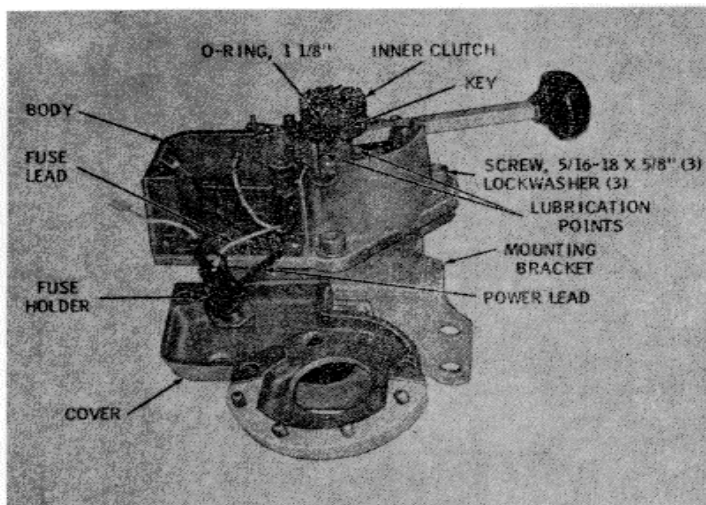
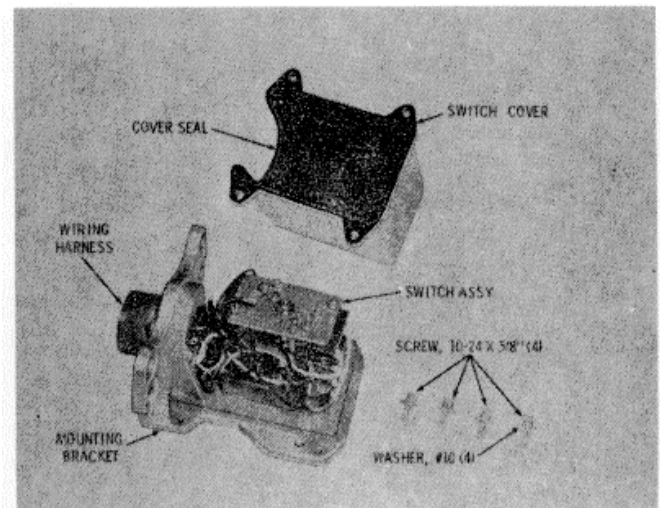
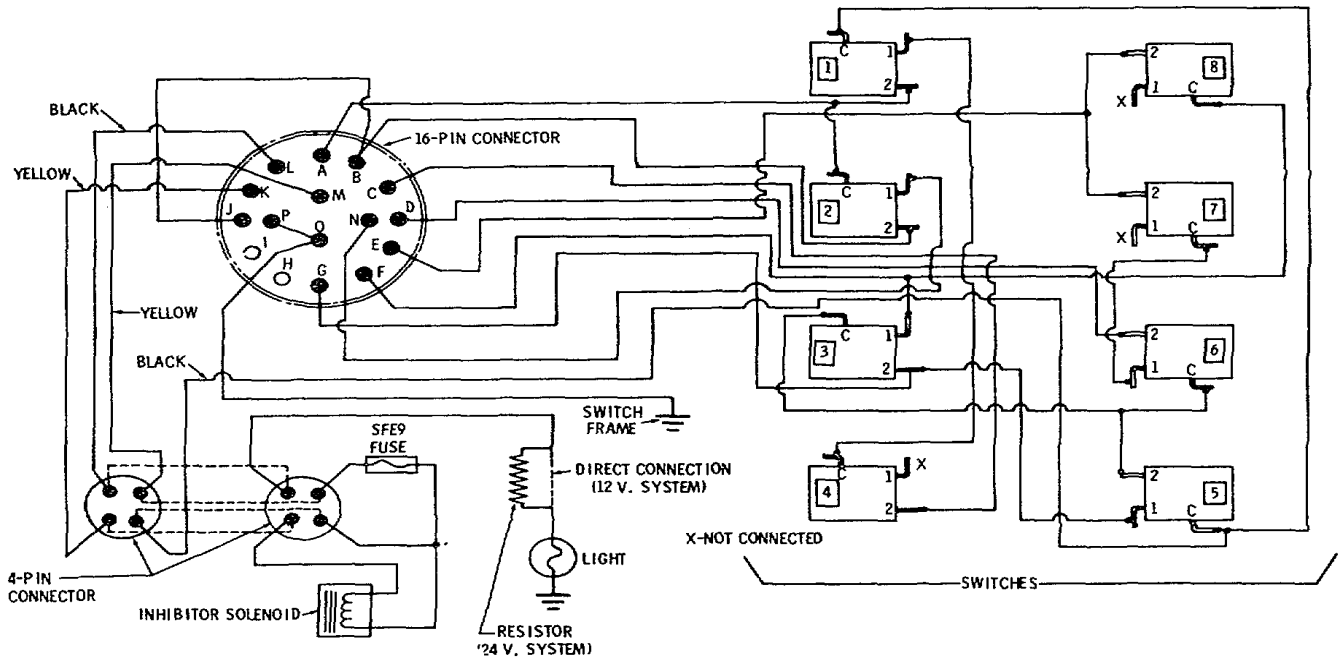
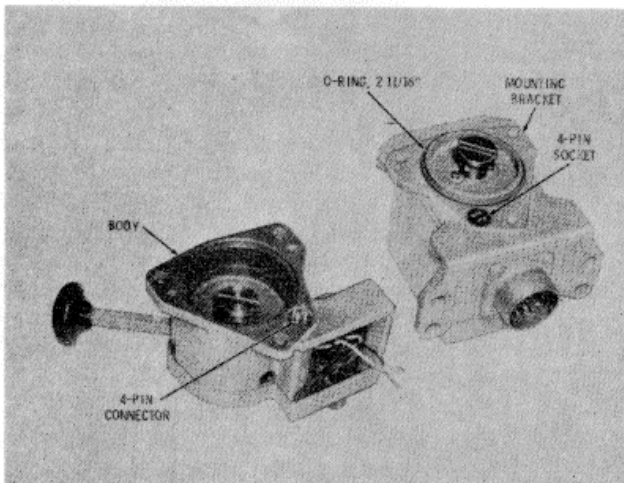

Figure 15-106. Shift Tower Assembly with Inner Clutch Exposed
Figure 15-107. Mounting Bracket, Switch Assembly and Cover
Figure 15-110. Shift Tower Assembly - Manual-Electric
Figure 15-112. Shift Tower Body Section and Switch Section Separated
12. Pull the cover from the body (Figure 15-106). Remove the heat-shrink tubing from the power lead terminals. Disconnect the terminals. Disconnect the fuse lead.
13. Remove the fuse holder from the cover if replacement is necessary (Figure 15-106).
14. Remove three socket-head screws and lockwashers that retain the body (Figure 15-106). Remove the body, and its attached parts, from the mounting bracket.
16. Remove O-ring 3 from inner clutch 2. Remove pin 46 from inner clutch 2. Remove inner clutch 2 from rotary key 39.
17. Remove nut 13 from pin 38. Remove pin 38 from rotary key 39. Remove handle 16 and knob 17 from rotary key 39. Remove leveler 4 and spring 5.
18. Push rotary key 39 from body 8. Remove O-ring 14 from rotary key 39.
20. Remove four screws and washers that retain the switch cover (Figure 15-107). Remove the cover and cover seal.
Refer to Figure 15-110 to confirm the locations, but note the view in the wiring diagram is at the front (mating side) of the socket and the order of installation is counterclockwise.
6. Follow the wiring diagram (Figure 15-110) to connect the wiring harness leads to the switch assembly. Also connect the three jumper leads (from terminal 1 of switch 1, to common terminal of switch 4; from terminal 1 of switch 6, to common terminal of switch 7; and from common terminal of switch 3, to terminal 2 of switch 5, and to common terminal of switch 6). Note also that three switch terminals have no leads connected to them.
- 16 in rotary key 39.
13. If either a new rotary key 39 or a new inner clutch 2, or both, are installed, a drilling guide is required. Install inner clutch 2 onto rotary key 39 until the rotary key bottoms in the clutch. Install the 1-1/8 inch (28.5 mm) O-ring onto the inner clutch (Figure 15-106).
14. Using Shift Inhibitor Clutch Drilling Fixture, J-24711 (see page 15-37), push the inner clutch, of the assembly built thus far, into the large hole in the drilling guide. Position the body dowel pins in the two smaller holes, and the selector handle between the two dowel pins of the guide. Hold the rotary key and inner clutch firmly against the guide stop screw, and drill a 3/32 inch (4.9 mm) hole through the clutch and/or rotary key. Install rotary pin key 46 (B, Fold-out 12). Remove the assembly from the drill guide.
15. Install the four-pin connector into the shift tower (Figure 15-112). Push the connector into the mounting face of the body until it is flush with the adjacent area. Note there is a projection on the connector body that indexes with a notch in the shift tower body for angular alignment of the connector.
17. Install the assembled body section of the shift tower assembly onto the assembled switch section (Figure 15-106). Install three 5/16-18 x 5/8-inch socket-head screws and lockwashers to retain the two sections.
18. Install the fuse holder into the body cover (Figure 15-106). Retain it with nut 69 (B, Foldout 12). Connect the fuse lead (coming from M in the sixteen-pin connector, through the four-pin connector) to the single lead of the fuse holder (refer to Figure 15-110). Connect the power lead (coming from the lead in the four-pin socket that connects to the common terminals of switches 3, 5, 6 and 8) to the black lead of the fuse holder. Lightly lubricate the O-ring on the inner clutch with grease (Texaco Marfak No. 2, or equivalent).
37. Install the switch cover and cover seal (Figure 15-107). Retain the cover with four 10-24 x 5/8 inch screws and washers.